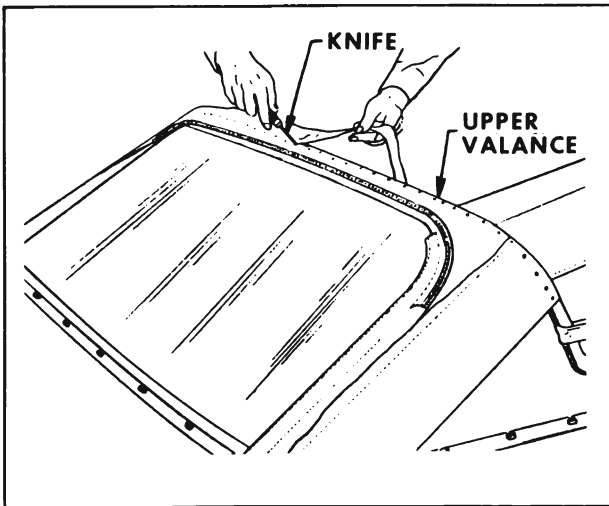

Figure 7-40—Trimming Excess Material
17. Working from body center progressively outboard to right and left sides, tack back curtain upper valance and upper ends of integral stay pads to rear bow. Make sure all fullness has been drawn from curtain before trimming off excess at rear bow (see Figure 7-40).